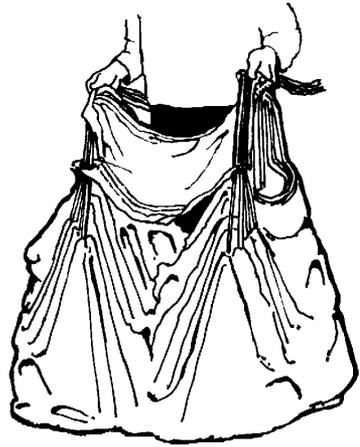

Figure 4.
Step 6.) Anchor the harness /container system and apply tension to the lines. Step between the right and left line groups and grasp the right line groups in the right hand and the left line groups in the left hand. Push the slider toward the canopy, and walk forward. Pick up the canopy by the suspension lines and allow it to hang downward (See Figure 4.) Push the slider up as far as it will go until each slider grommet comes to its respective slider stop on each stabilizer.